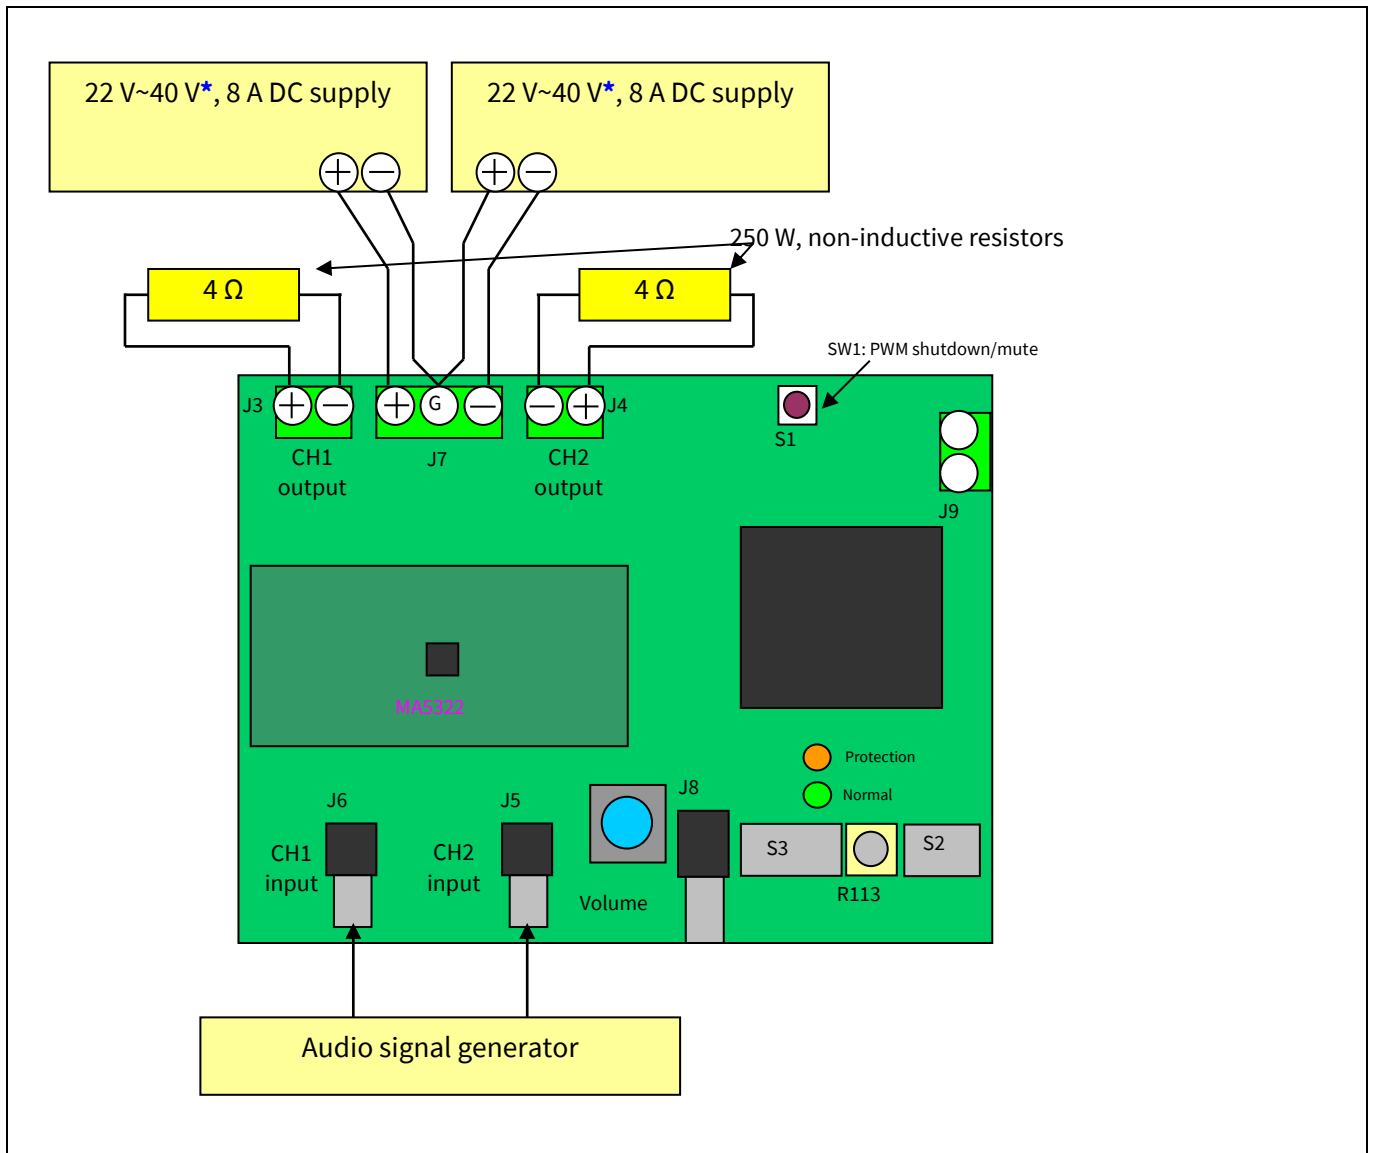
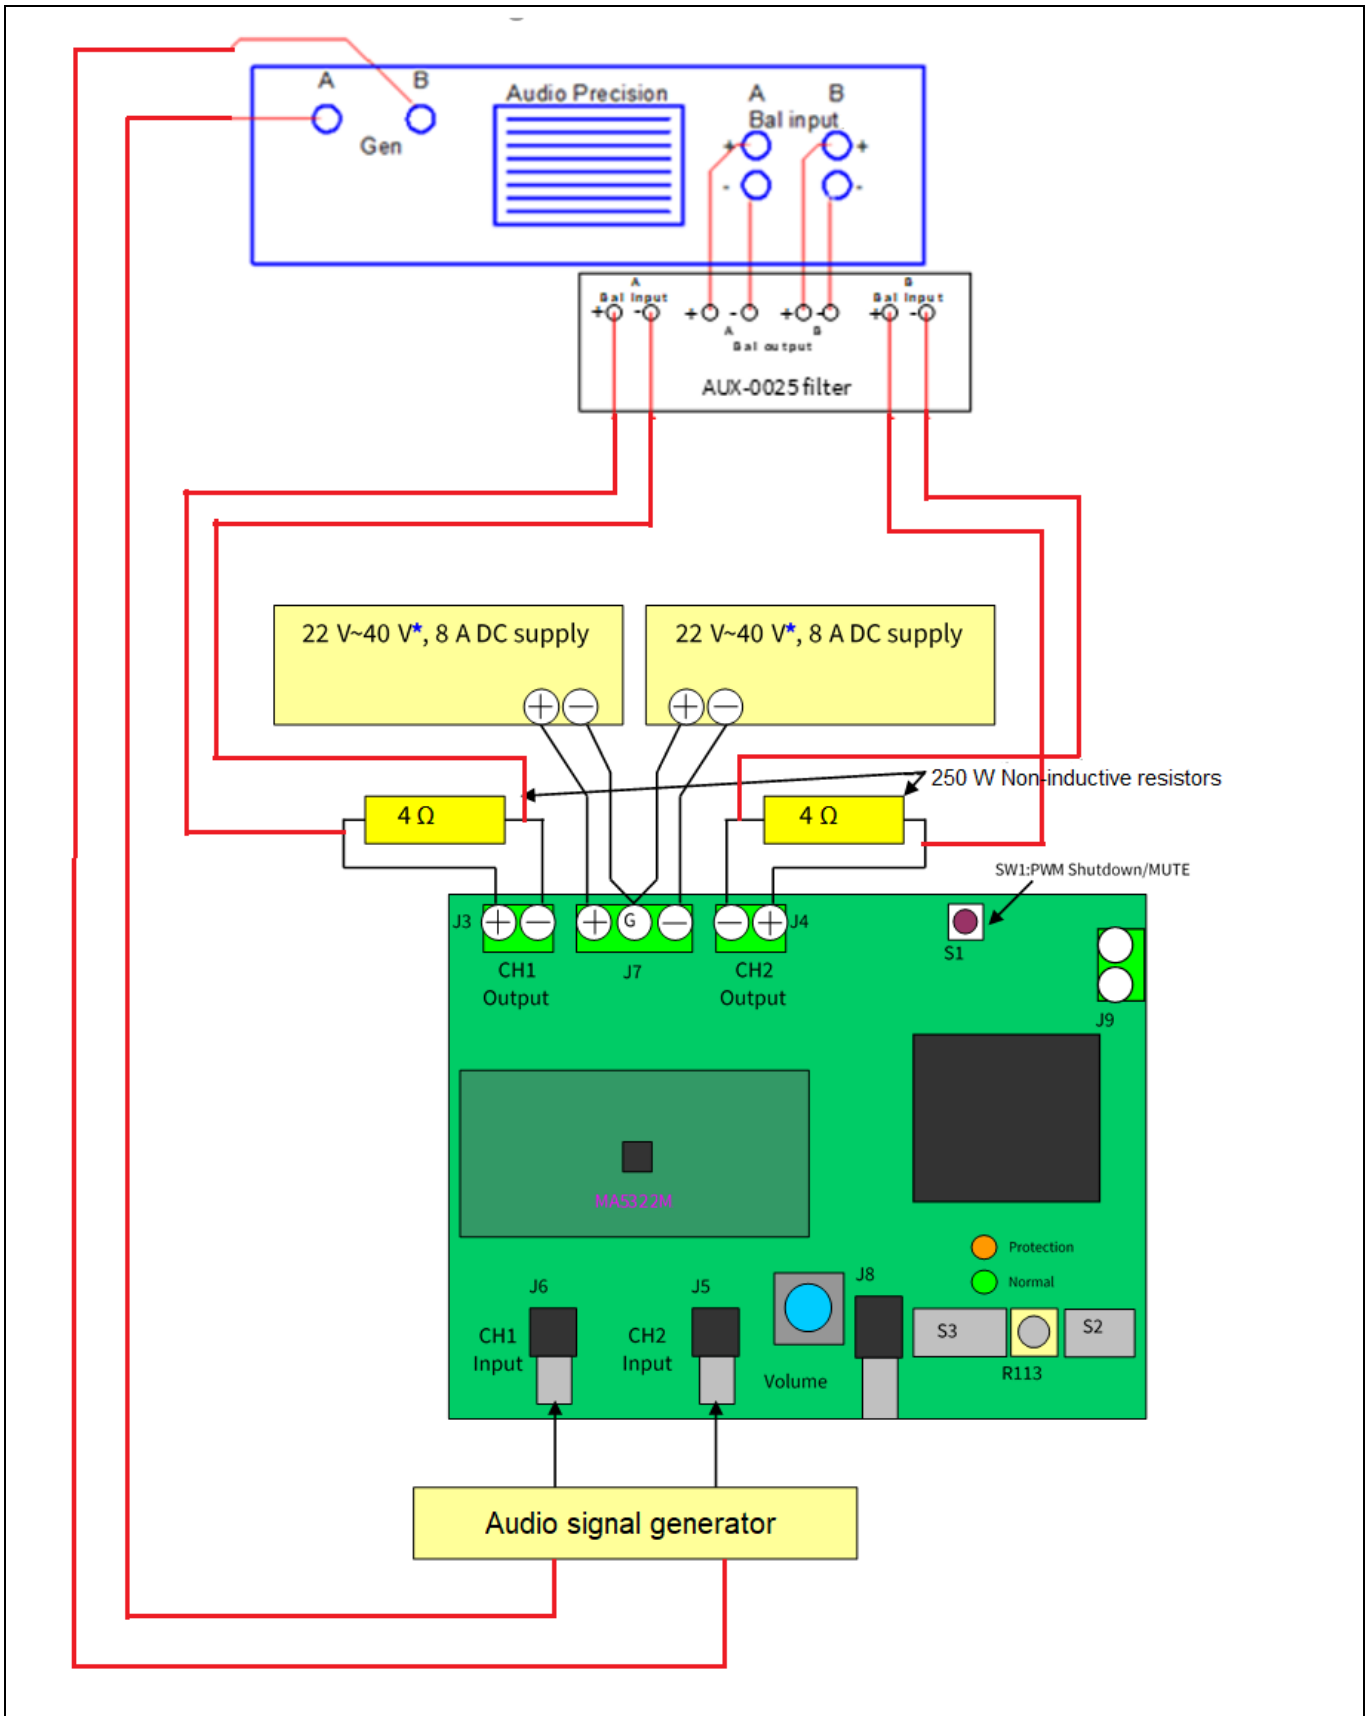

Figure 3 Typical connectors
Figure 4 Audio analyzer connections
1. Connect 4 Ω 250 W dummy loads to output connectors (J3 and J4, as shown in Figure 3) and parallel it with the input of the audio precision (AP) analyzer.
2. Connect the audio signal generator (ASG) to J6 and J5 for CH1 and CH2 respectively (AP).
7. Connect the dual power supply to J7, as shown in Figure 3 or Figure 4.